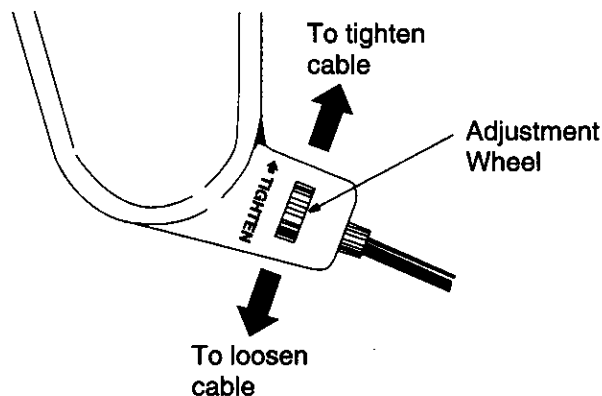

FIGURE 13
- To resolve the above problems, rotate the adjustment wheel with your fingers: clockwise to tighten the cable, and counter-clockwise to loosen the cable. See Figure 13.